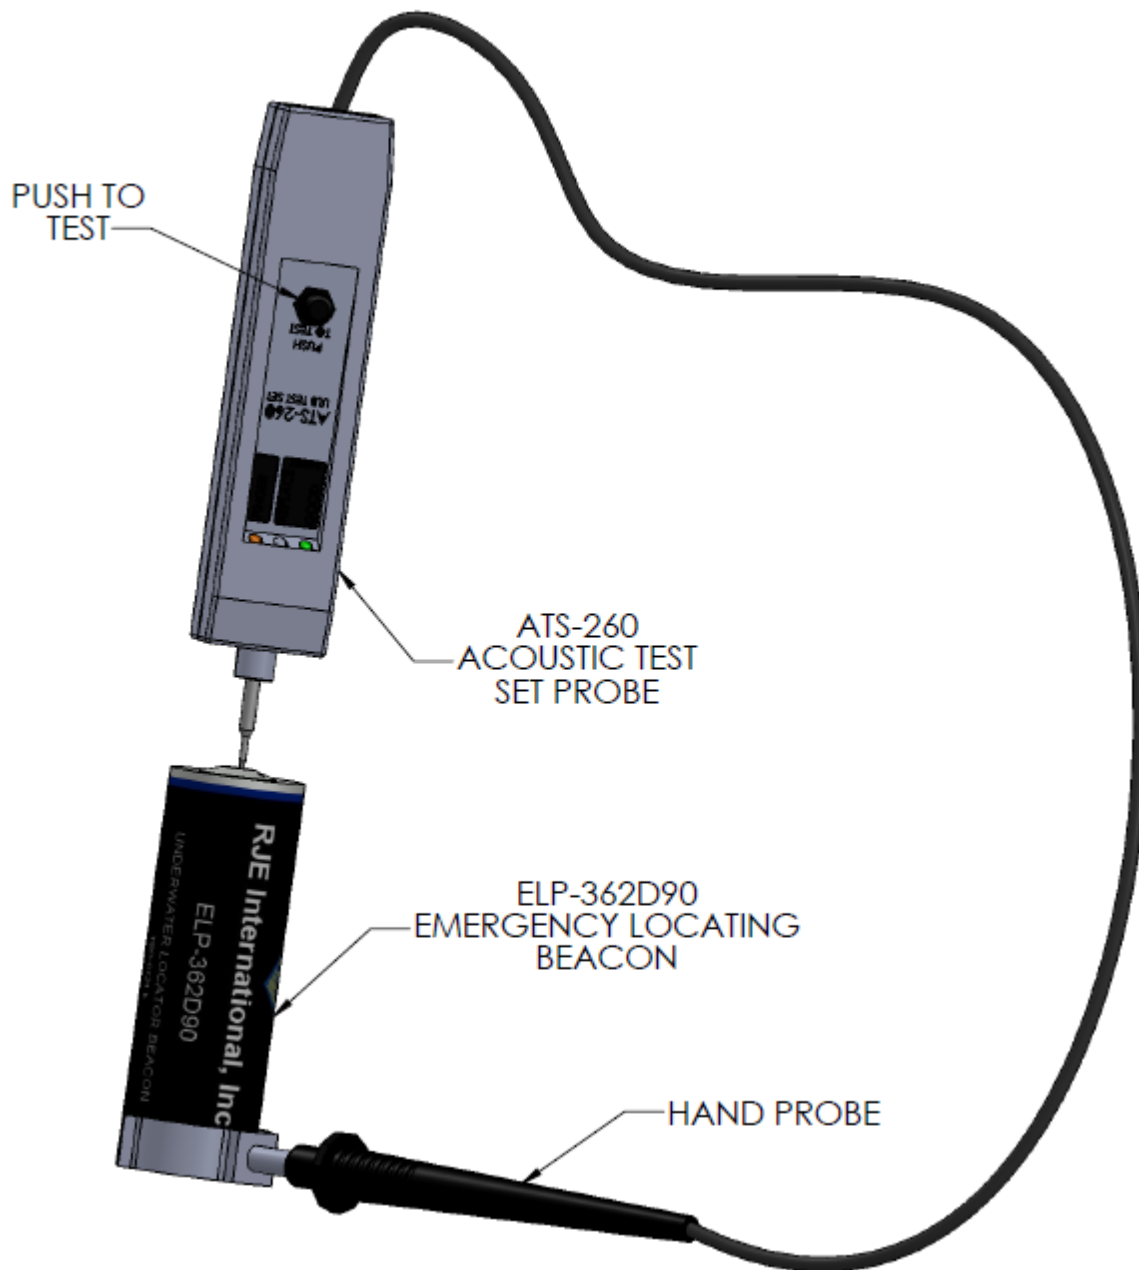

Figure 3-4 Connecting the ATS-260 Acoustic Test Set
1. Attach the cable clip directly to the beacon housing as shown in Figure 3-4. It is not necessary to remove the beacon from the mount to conduct the test. Although the cable clip can touch the beacon label, it is important that at least part of the clip touch the bare aluminum surface of the beacon.
2. Apply the test set probe to the water activation switch as shown in Figure 3-4.